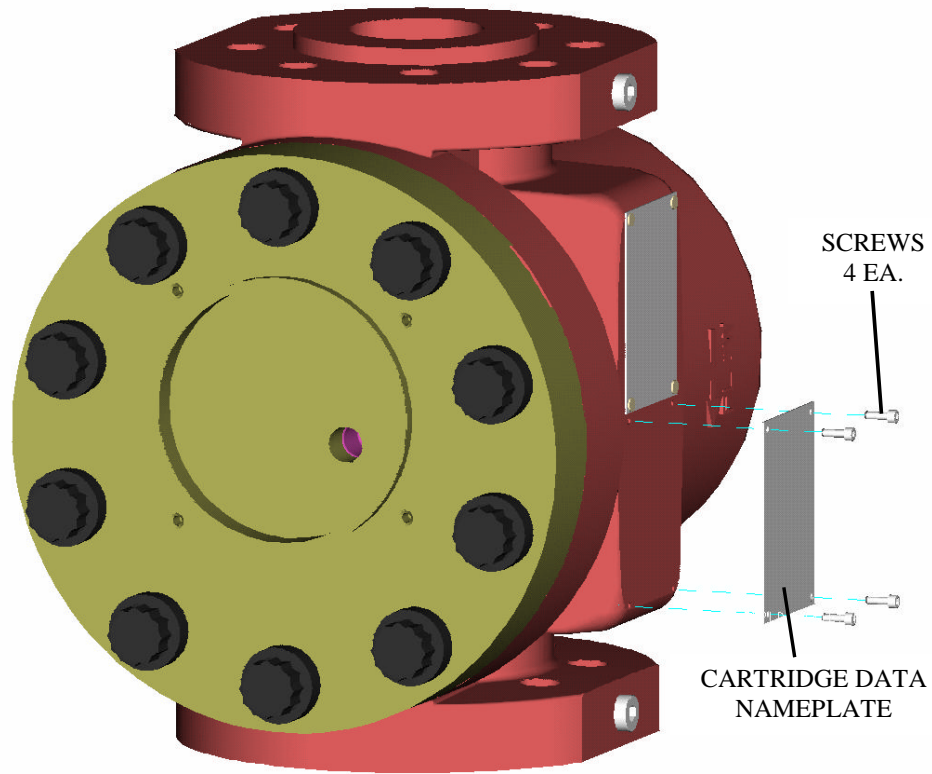

Figure 3. Cartridge Data Nameplate.
5. Using a 3/32" Allen wrench, remove the four screws holding the Cartridge Data nameplate and replace with new one. Reference Figure 3.